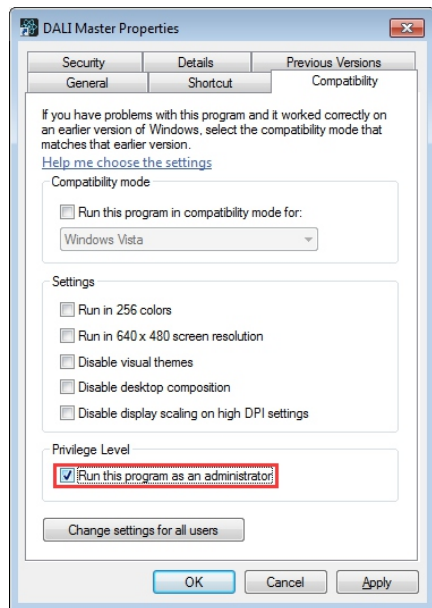

Figure 7 Run this program as an administrator
Step 1: Right click the desktop icon  to check the properties, switch to "Compatibility" tab, and check item "Run this program as an administrator" as shown in **Figure 7**.
Step 2: Click "OK" to complete the setting as shown in **Figure 7**.